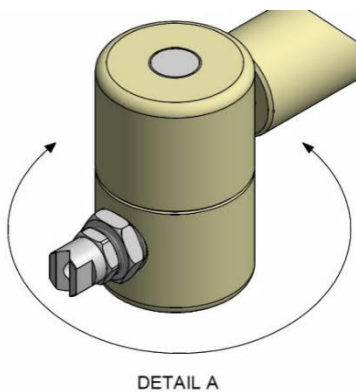
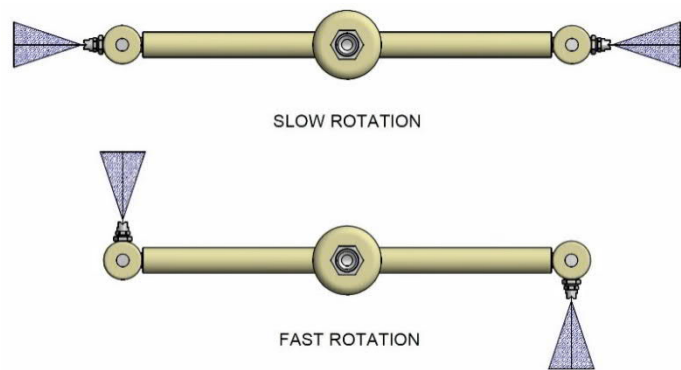

FIGURE 2
FIGURE 3
STEP 2: The rotation speed can be set by adjusting the spray buckets. By loosening the bolt which passes through each bucket, the nozzle housing can rotate through 360 degrees (see Figure 2). The nozzles need to be pointing in opposite directions to cause the spray arms to rotate. Speed of rotation is affected by the angle at which the nozzles are set (Figure 3). Best results are obtained with slow rotation, but care must be taken to allow for drops in water pressure at times of peak water usage in the locality. A temporary drop in water pressure can cause the Washer to stop.